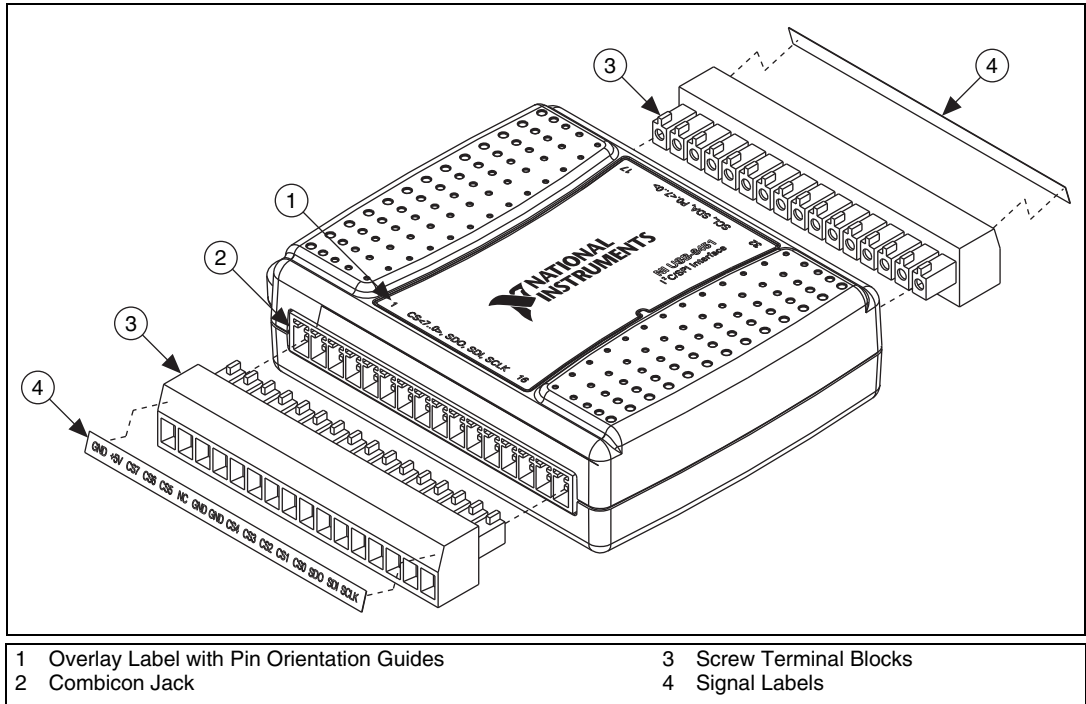

Figure 3-2. Signal Label Application Diagram
2. Refer to Table 3-1 and Figure 3-2 for label orientation and affix the provided signal labels to the screw terminal blocks. Until the signal labels are applied, you can insert the screw terminal blocks into either combicon jack.